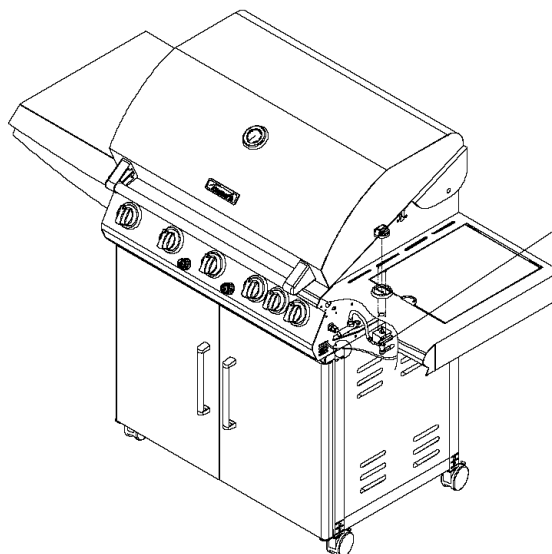

Figure 1
- Insert the Side burner Gas Valve Assembly into Side Burner Tube (See Figure 1). Be sure the orifice is inside the Burner Tube properly (see warning on Page 3), or lighting the burner may cause explosion and/or fire.